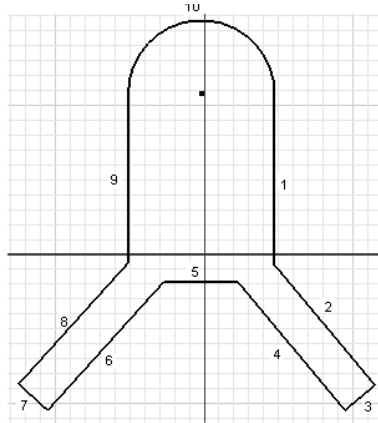

Figure 3-33 Initial sketch with the geometries numbered
1. Choose the **Line** tool from the **Create** panel of the **Sketch** tab to draw the outer loop, as shown in Figure 3-33. As mentioned earlier, you should draw the inner loop after drawing and dimensioning the outer loop. This is because once the outer loop is dimensioned, you can draw the inner loop by taking the reference of the outer loop.
You can draw the arc while the **Line** tool is active. You can also use the temporary tracking option to draw this sketch. For your reference, the geometries in the sketch are numbered, see Figure 3-33.